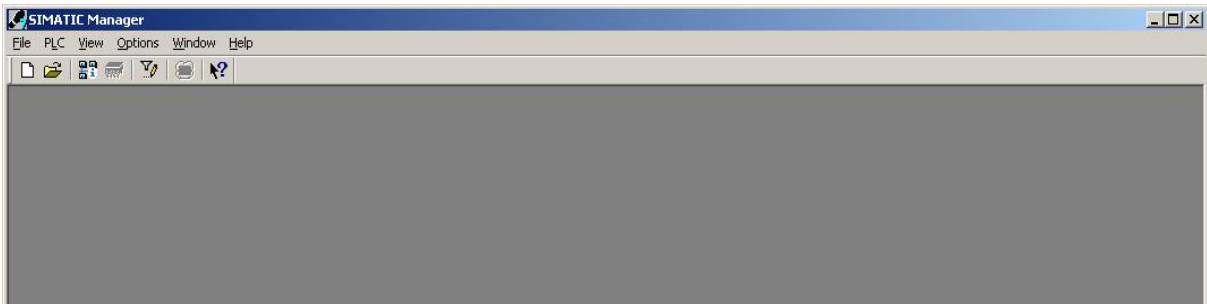

Figure 1
1. Open SIMATIC Manager  ; Figure 1: